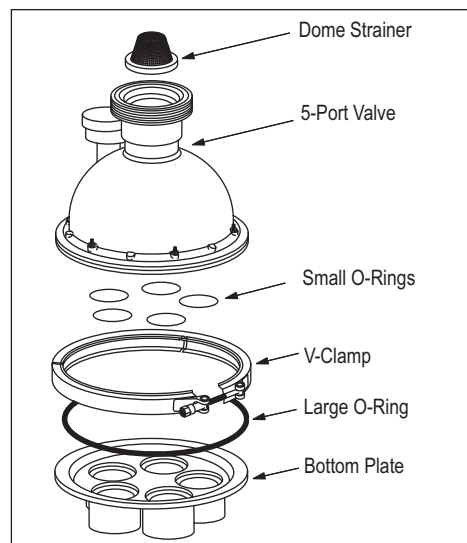

Figure 11. Installing the Functional Valve
Remove the builder test housing and install the functional 5-Port valve. Refer to Figure 11.
2. Use a 7/16" deep socket with a ratchet or a 7/16" wrench to loosen and remove the V-clamp. Refer to Figure 11.
4. Remove the five (5) small o-rings, the large o-ring, and the dome strainer. If the system is over one (1) year old, replace the o-rings (O-Ring Kit, part number 5-13-1).